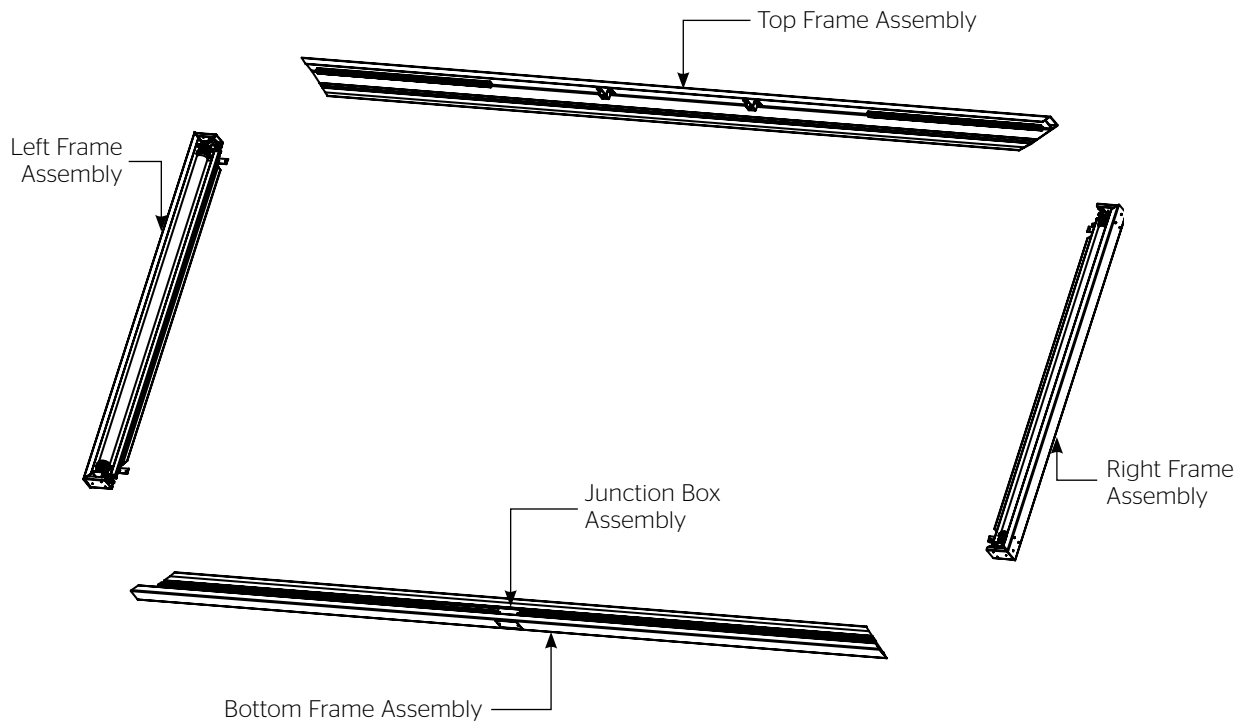

Figure 1
1. In the hardware package, you will receive (4) #10 x .375" long button head screws and (12) #10 x .500" long button head screws required for frame assembly.
2. Lay frame pieces out on floor or table as shown in Figure 1. The right and left side frame assemblies have the rollers and motors attached to them. The bottom frame piece has (2) guide rails and the wiring junction box attached to it. The top frame piece will have the (2) guide rails attached to it.